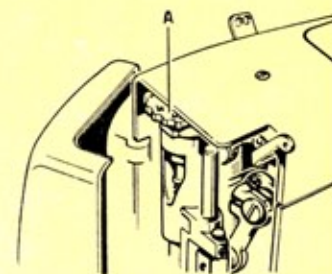

Fig. 10
- Turn knob « A » encased in the machine (Fig. 10): the number visible towards face plate indicates pressure value.